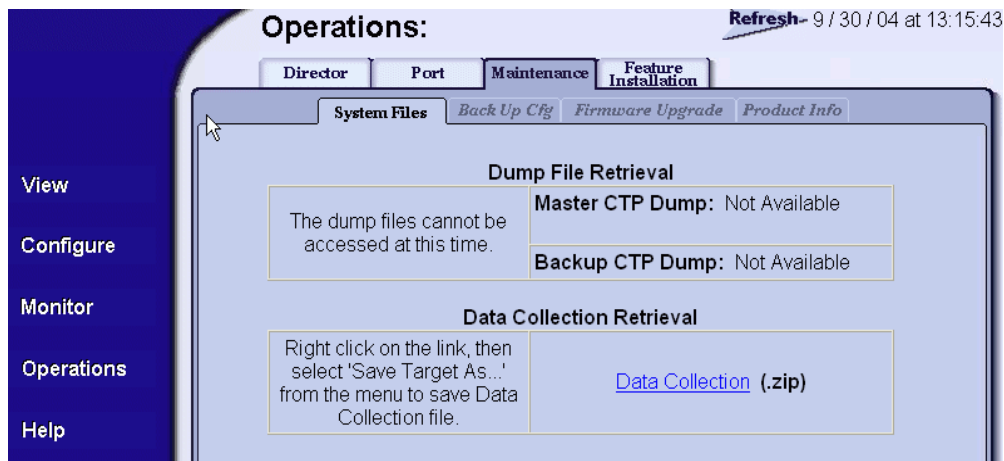

Figure 4-21 Operations Panel (Maintenance Page with Dump Retrieval Tab)
2. Click the *Maintenance* tab, then the *System Files* tab. The *Maintenance* page displays with the *System Files* tab selected (Figure 4-21).